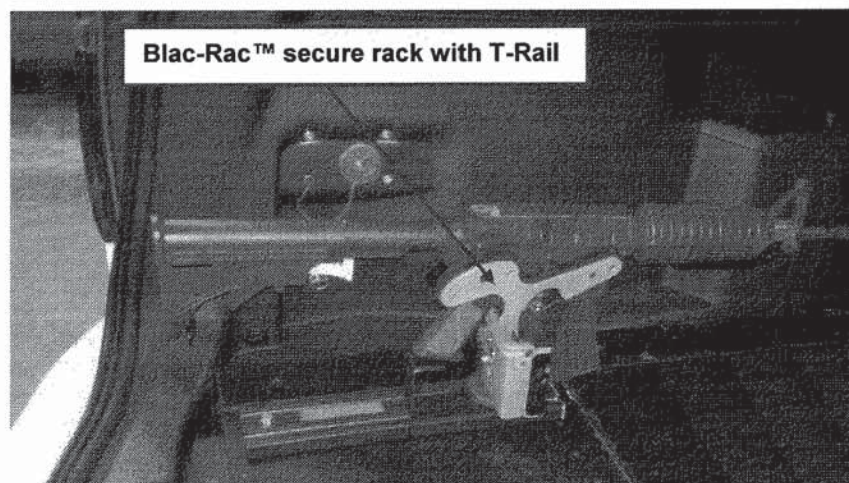

Figure 31 - D&R Electronics® - Electronics Sub Panel Mount with PCVSS installation
- (1). Installation of this secure rack-type PCVSS requires the Blac-Rac™ Model 1070 Tactical Weapons Rack with External 3/8 inch Hasp and Blac-Rac™ T-Rail System;
- (2). In this configuration the rack shall be secured with a CF/DND-standard Abloy F283 (Model PL330) high security padlock;
- (3). The rack shall be installed on the T-Rail System which will be installed on the equipment tray in such a manner that the carbine is held horizontally; and
- (4). The T-Rail system shall be cut to ensure it allows the D&R Electronics® - 933-0092A cabinet subframe with electronics sub panel mount to open.
- b. **Blac-Rac™ Model 1070 with Integral Lock:** This secure rack-type PCVSS is currently one of the three models approved for Police Interceptor Utility marked MP vehicle and is illustrated at *Figure 31* below:
- (1). Installation of this secure rack-type PCVSS requires the Blac-Rac™ Model 1070 Tactical Weapons Rack with Integral Lock and Blac-Rac™ T-Rail System;
- (2). In this configuration the rack is supplied with an integral high security double-sided (Pagoda style) cam lock. The rack is normally delivered with two identical keys (Note: This is a proprietary lockset so extra keys cannot be made or copied locally. Key copying and re-keying can only be done by the manufacturer;
- (4). The T-Rail System shall be cut to ensure it allows the D&R Electronics® - 933-0092A cabinet subframe with electronics sub panel mount to open.